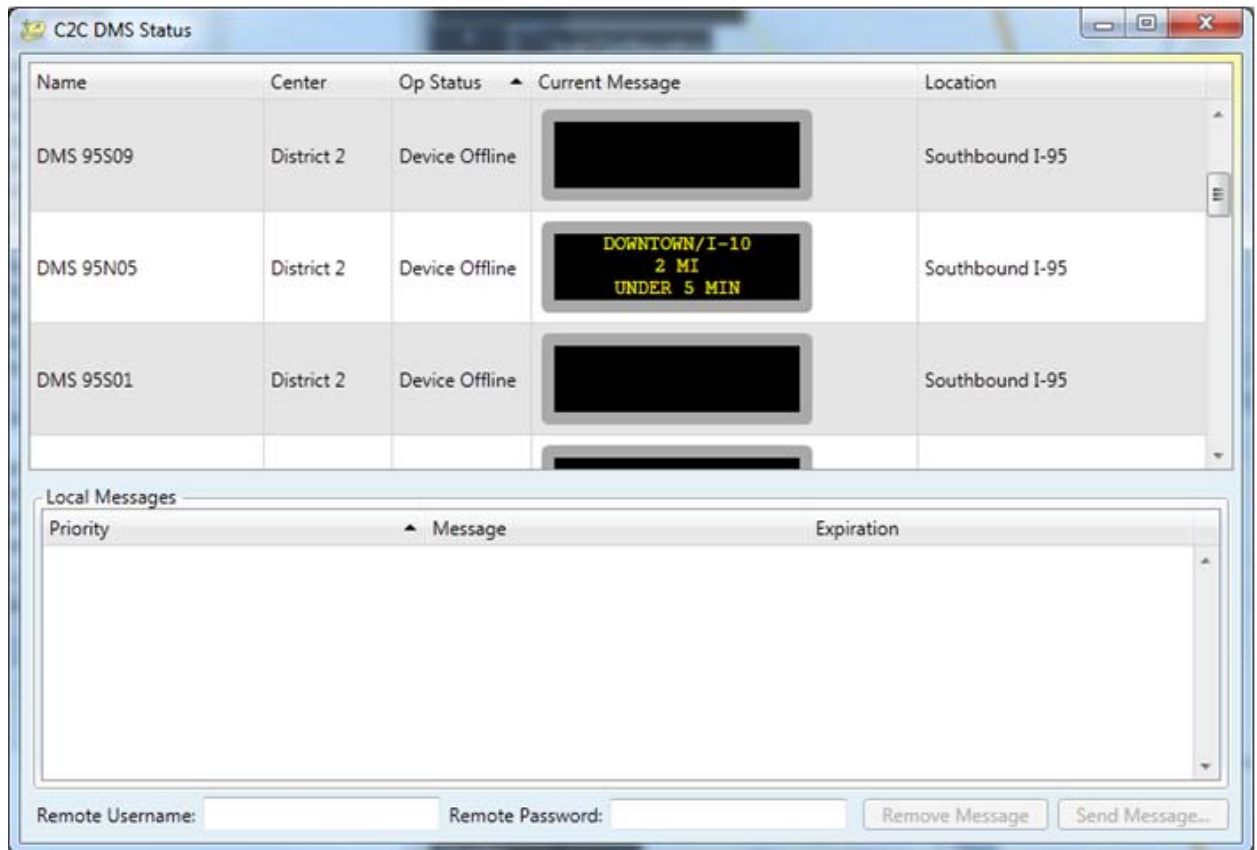

Figure 3-58 – C2C Send DMS Message
- **Send Message:** Selecting this button will cause the C2C Send DMS Message dialog to be displayed; this dialog is shown in Figure 3-58.
- **Send Message:** Selecting this button will cause the C2C DMS Control dialog to be displayed; this dialog is shown in Figure 3-58.